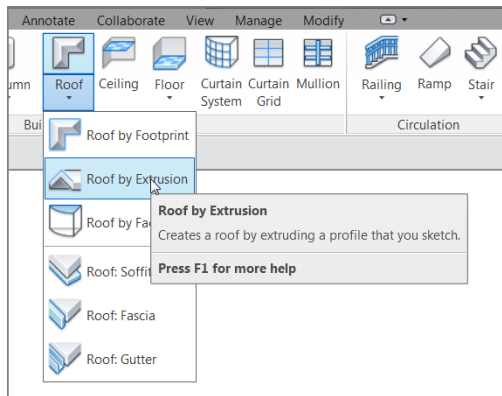

FIGURE 7.49: The **Roof > Roof By Extrusion** command
1. On the Architecture tab, choose **Roof > Roof By Extrusion**, as shown in Figure 7.49.